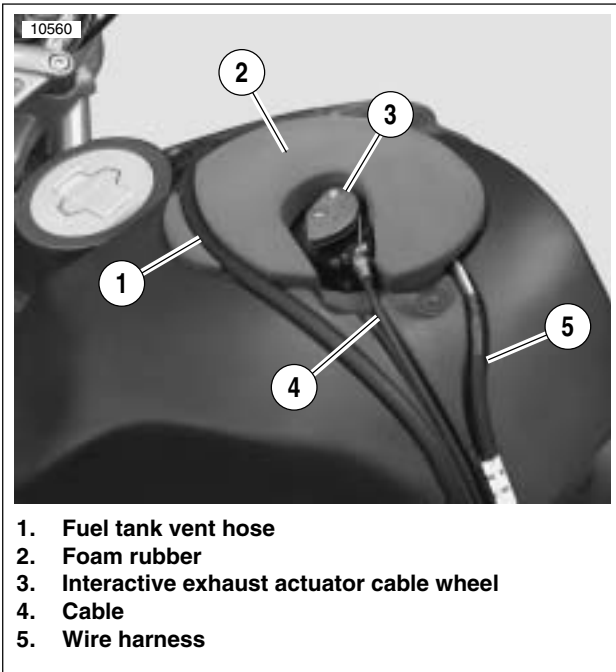

Figure 7-83. Interactive Exhaust Installation
2. See Figure 7-83. If installing actuator:
- a. Attach interactive exhaust cable (4) to cable wheel (3) on actuator.
- b. Install foam rubber isolator (2) and actuator and fuel tank vent hose (1).
- c. Adjust cable (4). See 1.17 INTERACTIVE EXHAUST CABLE \(XB12R\).